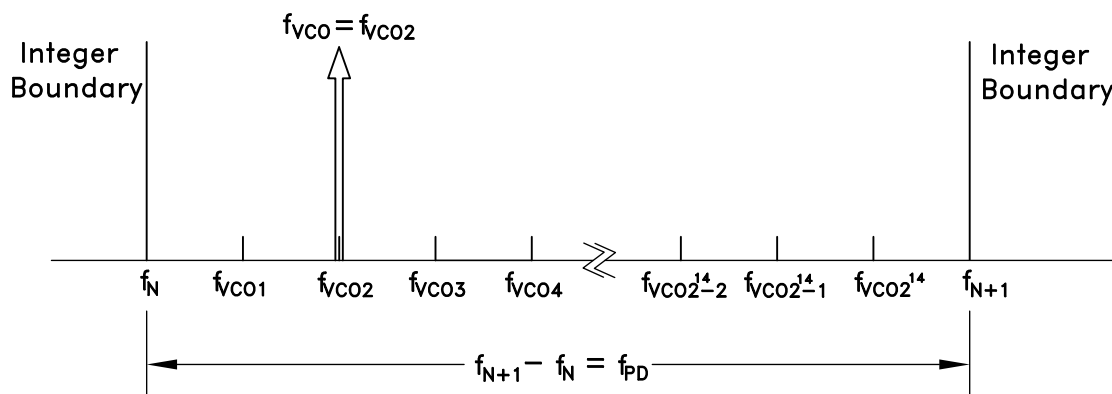

Figure 44. Exact Frequency Tuning
and f_{VCOk} are the channel step frequencies where $0 < k < 2^{24}-1$, As shown in Figure 44.
Some fractional PLLs are able to achieve this by adjusting (shortening) the length of the Phase Accumulator (the denominator or the modulus of the Delta-Sigma modulator) so that the Delta-Sigma modulator phase accumulator repeats at an exact period related to the interval frequency ($f_{VCOk} - f_{VCO(k-1)}$) in Figure 44. Consequently, the shortened accumulator results in more frequent repeating patterns and as a result often leads to spurious emissions at multiples of the repeating pattern period, or at harmonic frequencies of $f_{VCOk} - f_{VCO(k-1)}$. For example, in some applications, these intervals might represent the spacing between radio channels, and the spurious would occur at multiples of the channel spacing.
If it is desirable to have multiple, equally spaced, exact frequency channels that fall within the same interval (ie. $f_N \leq f_{VCOk} < f_{N+1}$) where f_{VCOk} is shown in Figure 44 and $1 \leq k \leq 2^{14}$, it is possible to maintain the same integer-N (Reg 03h) and exact frequency register (Reg 0Ch) settings and only update the fractional register (Reg 04h) setting. The Exact Frequency Channel Mode is possible if \(EQ 17\) is satisfied for at least two equally spaced adjacent frequency channels, i.e. the channel step size.
To configure the HMC834LP6GE for Exact Frequency Channel Mode, initially and only at the beginning, integer (Reg 03h) and exact frequency (Reg 0Ch) registers need to be programmed for the smallest f_{VCO} frequency (f_{VCO1} in Figure 44), as follows:
1. Calculate and program the integer register setting Reg 03h = $N_{INT} = \text{floor}(f_{VCO1}/f_{PD})$, where f_{VCO1} is shown in Figure 44 and corresponds to minimum channel VCO frequency. Then the lower integer boundary frequency is given by $f_N = N_{INT} \cdot f_{PD}$.
Reg04h = $N_{FRAC} = \text{ceil}\left(\frac{2^{24}(f_{VCOk} - f_N)}{f_{PD}}\right)$ where $f_N = \text{floor}(f_{VCO1}/f_{PD})$, and f_{VCO1} , as shown in Figure 44, represents the smallest channel VCO frequency that is greater than f_N .
- To change from channel 1 ($f_{VCO1} = 2800.2$ MHz) to channel 2 ($f_{VCO2} = 2800.3$ MHz), only Reg 04h needs to be programmed, as long as all of the desired exact frequencies f_{VCOk} (Figure 44) fall between the same integer-N boundaries ($f_N < f_{VCOk} < f_{N+1}$). In that case